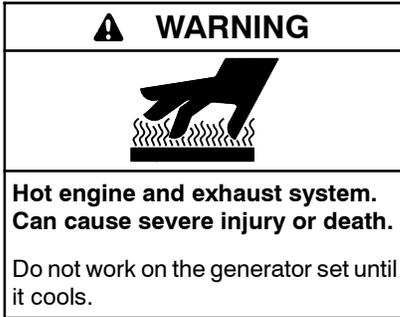

**Figure 1** Oil Pressure Sensor Boot Location
The oil pressure sensor boot protects the oil pressure sensor and its connection from moisture and frost buildup that can cause false low oil level faults. Install the oil pressure sensor boot in locations where the ambient temperature drops below 0°C (32°F). See Figure 1 for illustrations of the installed kit.
6. Lift the thermal cover and find the oil pressure sensor on the engine. See Figure 1.